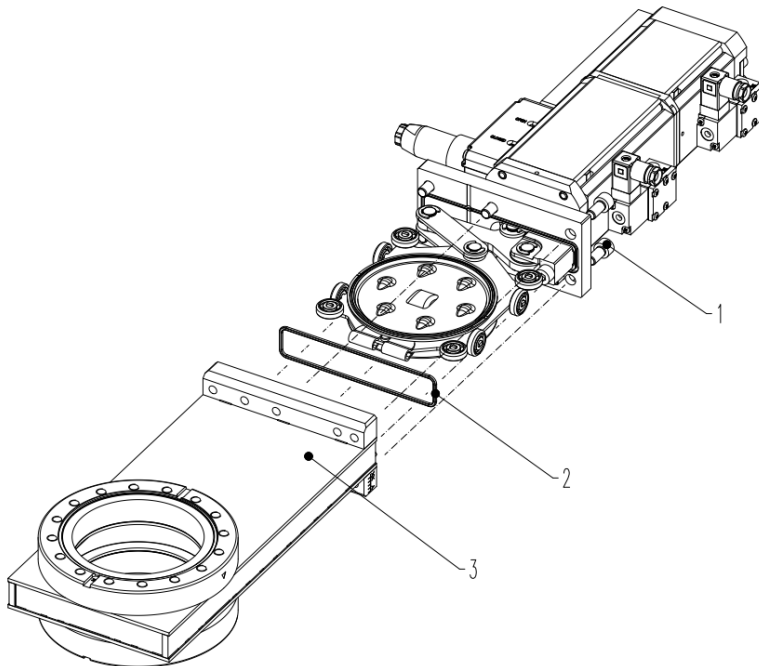

Figure 7-2
5. Remove screws (1) according to «Figure 7-2» on page 21.
6. Withdraw actuator / mechanism unit carefully from body without touching the body wall; see «Figure 7-2» on page 21.
22. Mount screws (1) according to «Figure 7-2» on page 21.